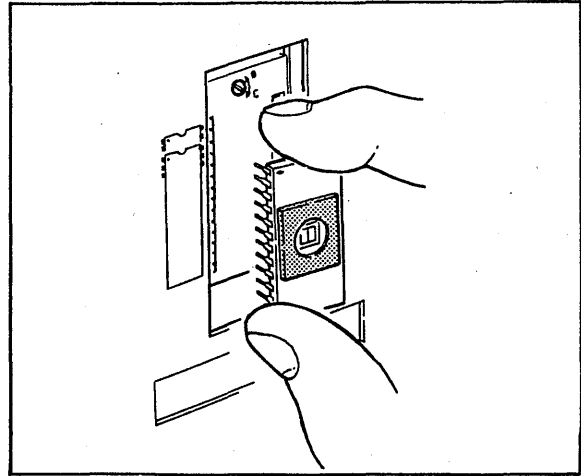

Figure 6-4-3. Removing ROM.
- d. Grasp the ROM manually and pull it out of the socket, being careful not to deform the pins. (See Figure 6-4-3.)
- (2) Installing user ROM